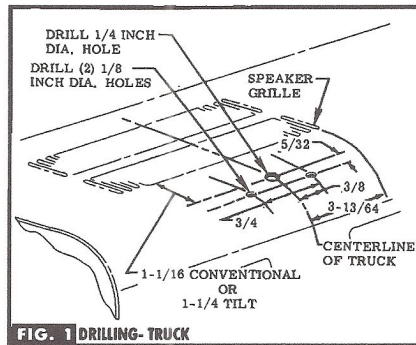

FIG. 1 DRILLING-TRUCK
STEP 1 LOCATE, CENTER PUNCH & DRILL HOLES IN INSTRUMENT PANEL. IF INSTRUMENT PANEL IS PADDED, HOLES ARE TO BE DRILLED THRU PAD. (ON CORVAIR 95 & CHEVY) USE TEMPLATE PROVIDED. SEE FIG. 1, 2, OR 3. **NOTE** (ON CORVAIR) Remove Ash Tray Asm. from Instrument Panel before drilling holes.